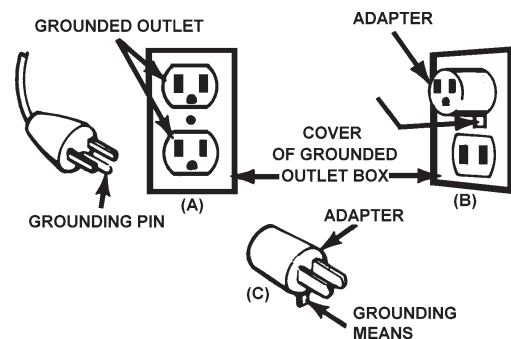

FIGURE 1: GROUNDING METHODS
Charger should be grounded to reduce the risk of electric shock. Charger is equipped with an electric cord having an equipment grounding conductor and a grounding plug. The plug must be plugged into an outlet that is properly installed and grounded in accordance with all local codes and ordinances. This battery charger is designed for use on a nominal 120 volt circuit and has a grounded plug that looks like the plug illustrated in FIGURE 1 (A). This plug should be used in a grounded outlet. The plug pins must fit the receptacle (outlet).
**ADAPTER:** A temporary adapter, as shown in FIGURE 1 (B) and (C), may be used to connect the charger plug to a two pole receptacle (outlet), as shown in FIGURE 1 (B).